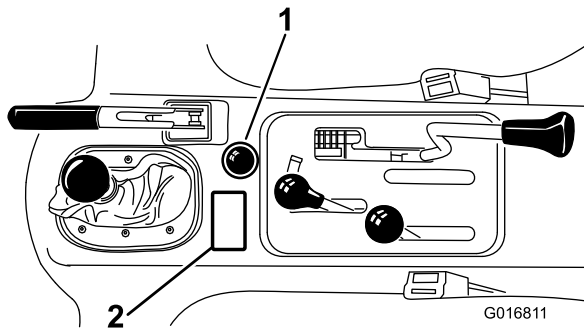

Figure 12
Affix circular level to top of console cover positioning as shown in Figure 12.
1. Affix operation decal to top of console cover positioning as shown in Figure 12.